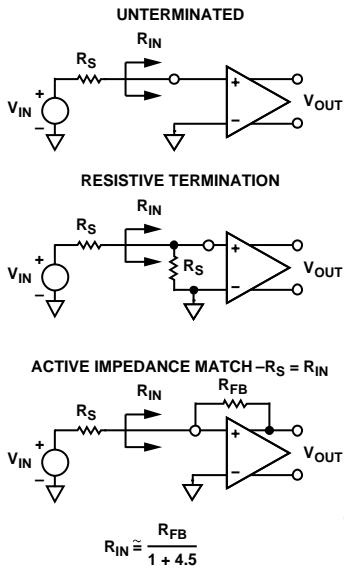
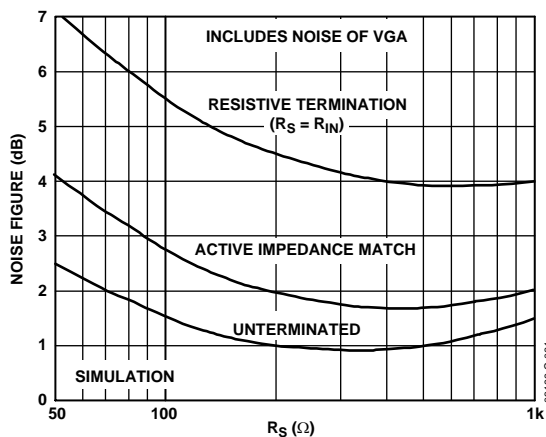
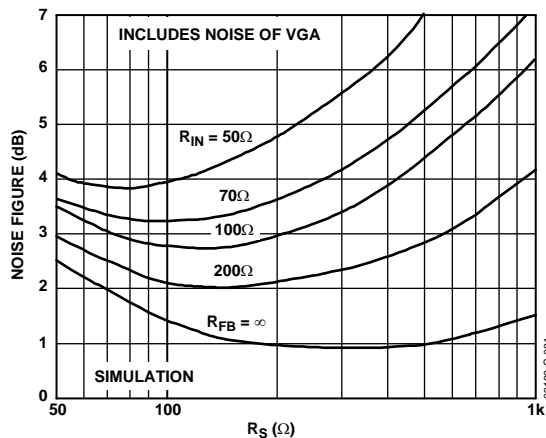

Figure 60. Input Configurations
Figure 61. Noise Figure vs. R_S for Resistive, Active Matched, and Untermated Inputs
Figure 62. Noise Figure vs. R_S for Various Fixed Values of R_{IN} , Actively Matched
The input-referred voltage noise sets an important limit on system performance. The short-circuit input voltage noise of the LNA is 0.74 nV/ $\sqrt{\text{Hz}}$ or 0.82 nV/ $\sqrt{\text{Hz}}$ (at maximum gain), including the VGA noise. The open-circuit current noise is 2.5 pA/ $\sqrt{\text{Hz}}$. These measurements, taken without a feedback resistor, provide the basis for calculating the input noise and noise figure performance of the configurations in Figure 60. Figure 61 and Figure 62 are simulations extracted from these results, and the 4.1 dB NF measurement with the input actively matched to a 50Ω source. Unterminated ($R_{FB} = \infty$) operation exhibits the lowest equivalent input noise and noise figure. Figure 61 shows the noise figure versus source resistance, rising at low R_S , where the LNA voltage noise is large compared to the source noise, and again at high R_S due to current noise. The VGA's input-referred voltage noise of 2.7 nV/ $\sqrt{\text{Hz}}$ is included in all of the curves.
The primary purpose of input impedance matching is to improve the system transient response. With resistive termination, the input noise increases due to the thermal noise of the matching resistor and the increased contribution of the LNA's input voltage noise generator. With active impedance matching, however, the contributions of both are smaller than they would be for resistive termination by a factor of $1/(1 + LNA\ Gain)$. Figure 61 shows their relative noise figure (NF) performance. In this graph, the input impedance has been swept with R_S to preserve the match at each point. The noise figures for a source impedance of $50\ \Omega$ are 7.1 dB, 4.1 dB, and 2.5 dB, respectively, for the resistive, active, and unterminated configurations. The noise figures for $200\ \Omega$ are 4.6 dB, 2.0 dB, and 1.0 dB, respectively.
Figure 62 is a plot of the NF versus R_S for various values of R_{IN} , which is helpful for design purposes. The plateau in the NF for actively matched inputs mitigates source impedance variations. For comparison purposes, a preamp with a gain of 19 dB and noise spectral density of a $1.0\ nV/\sqrt{Hz}$, combined with a VGA with $3.75\ nV/\sqrt{Hz}$, would yield a noise figure degradation of approximately 1.5 dB (for most input impedances), significantly worse than the AD8332 performance.